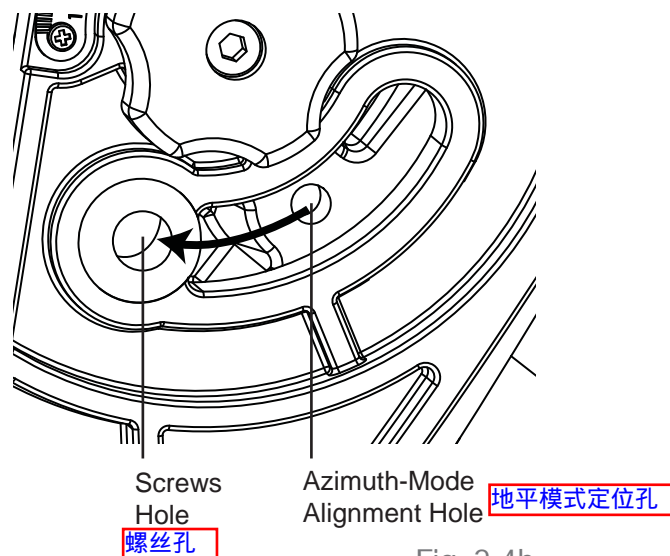

Fig. 2.4b
3. Jack up the R.A. axis's elevation until it reaches approximately 88 degrees and the jack-screw will disengage entirely. Lift the counterweight rod to align the azimuth-mode alignment hole with the upper screw hole on the left sidewall (Fig. 2.4b). Use the longer knurled screw to connect these two holes and tighten it with a 5mm Allen wrench. 3. 抬高赤经轴仰角至其接近约88度且顶紧螺丝完全脱离。通过左侧壁高处的螺丝孔将配重杆抬高至其与地平模式定位孔成一直线（图示2.4b）。用第二部中剩下的那个较长的滚花螺丝连接这两个螺丝孔并用5mm通用扳手拧紧。